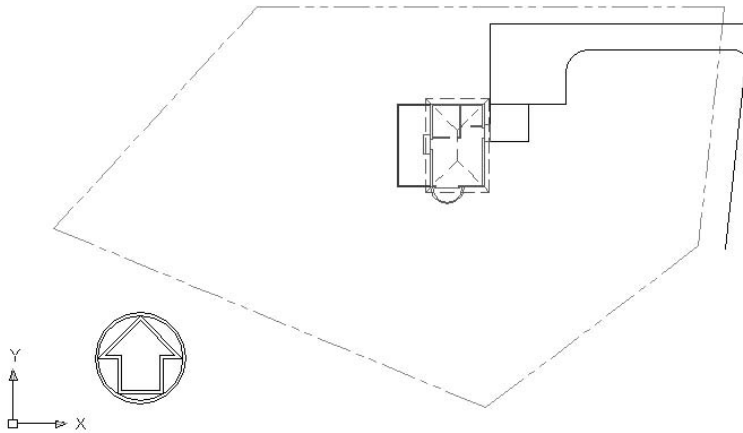

FIGURE 12.16: The Site12b drawing with the revised Xref of the cabin
2. Click the Reload button, and then click OK. You are returned to the Site12a drawing; the new deck has been added (see Figure 12.16).